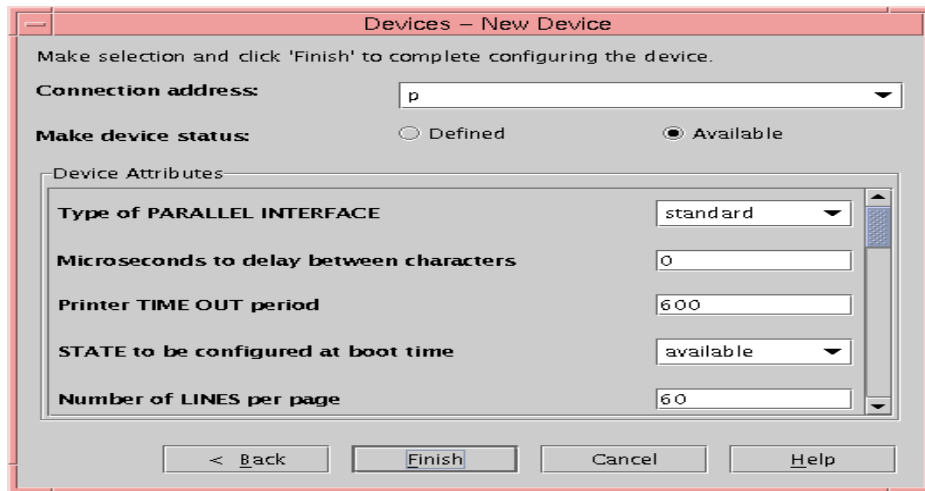

Figure 4. New device settings panel
7. When the first Devices - New Device panel appears, as shown in Figure 4 on page 60, select the value from the list that most closely matches your printer device. In this case, we selected **type hplj4** and clicked **Next**.